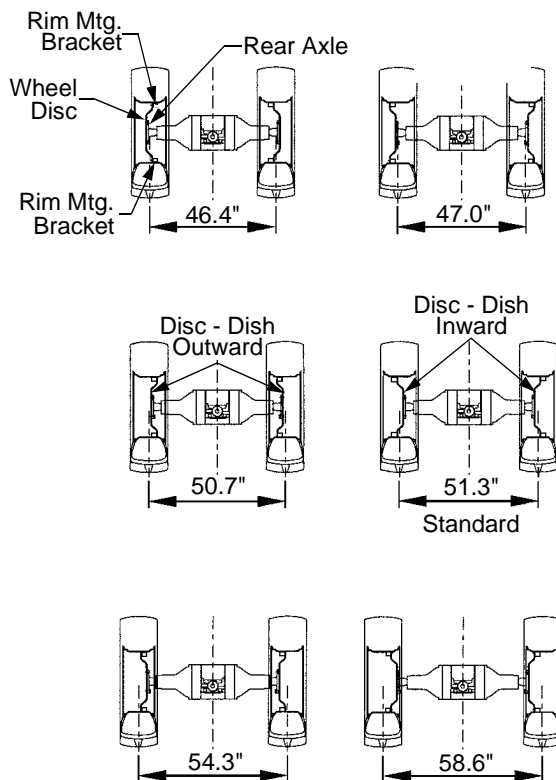

Figure 47
- Adjust the tread widths as shown by changing the mounting relationship of the wheel disc to the rim mounting brackets and/or the relationship of dish of the wheel disc to the axle. See Figure 47.